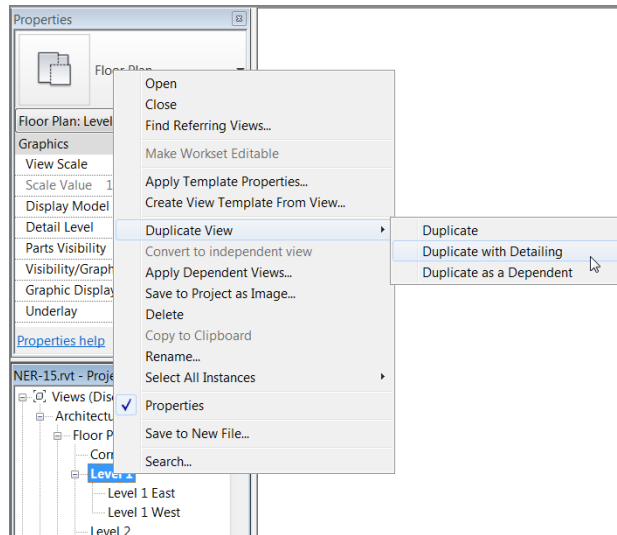

FIGURE 15.17: Duplicating the view
1. Right-click the Level 1 floor-plan view, and select Duplicate View ➤ Duplicate With Detailing, as shown in Figure 15.17. If you get an error pertaining to the view references, click the Delete button.